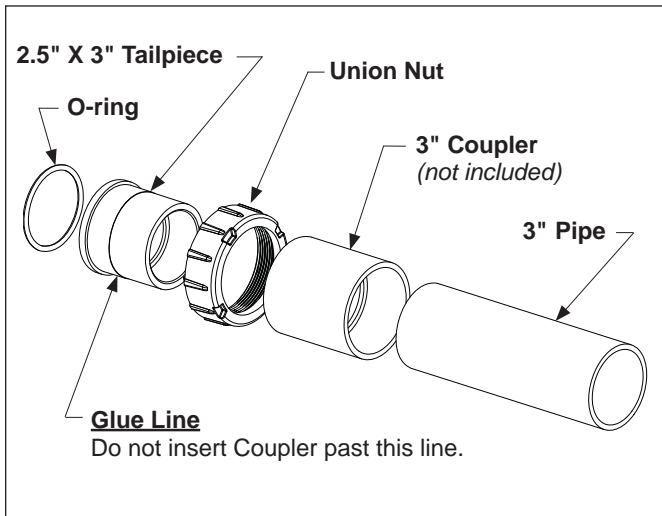

Figure 5. 2.5" X 3" Assembly Shown Connecting a 3" Schedule 40 Pipe
- c. For 3" pipe size, attach a 3" coupler (not included in the kit) onto the tailpiece. When gluing the coupler to the tailpiece, do not insert the coupler past the glue line (approximately 1 5/8"). Attach the end of the 3" pipe to the other end of the coupler as shown in Figure 5.